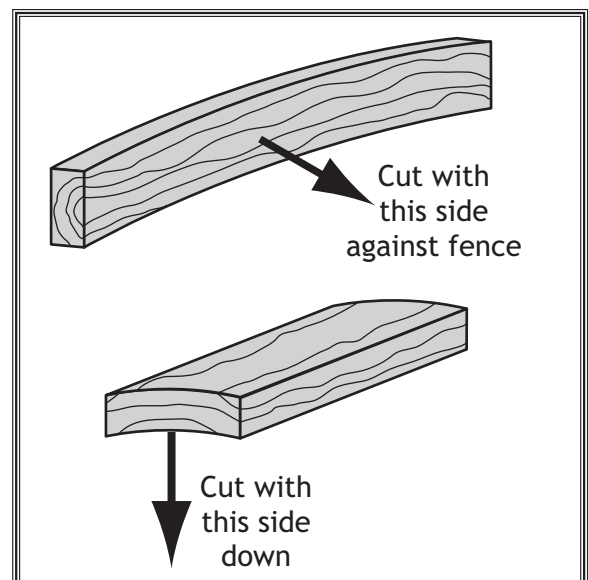

Figure 37. Cutting wood with minor warping.
- **Minor Warping:** Workpieces with slight cupping can be safely supported if the cupped side faces the table or fence, as shown in **Figure 37**. On the contrary, a workpiece supported on the bowed side will rock during a cut, leading to loss of control.